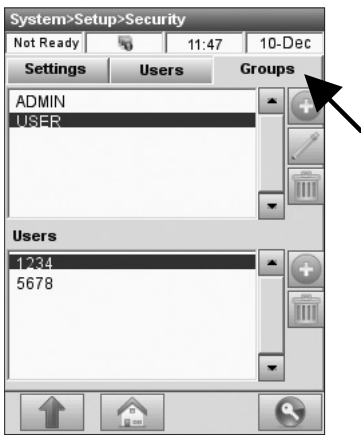

Fig. 3-61 Groups
1. Select the **<Groups>** tab in the **<System> Setup>Security>** menu (Fig. 3-61).
2. To add a new user group, press in the top section of the screen (Fig. 3-61).